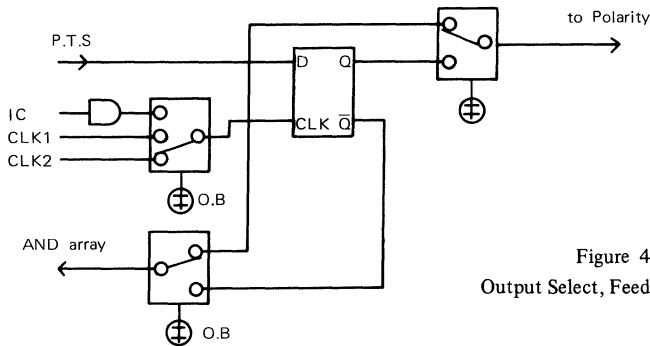

Figure 4 Output Select, Feed Back Select
O.S controls whether a signal to output uses a register, and F.B.S controls whether a signal to feedback uses a register (See figure 4). The EPL241 has 16 available registers and two CLOCK phases. The O.B. controls the switching of phase 1/ phase 2 of the CLOCK.